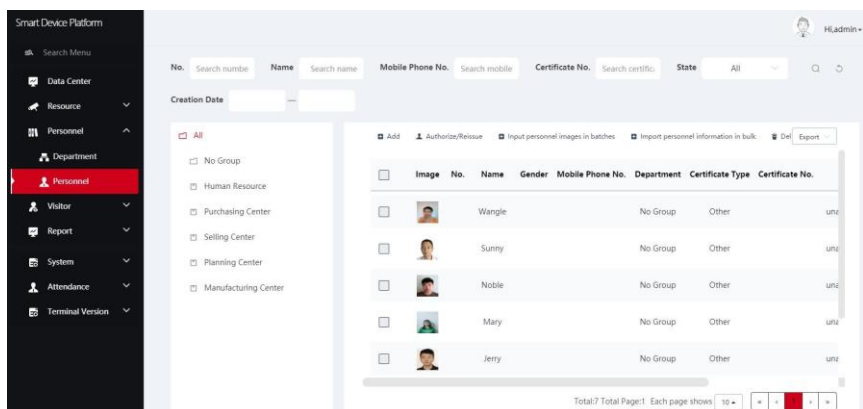

Figure 5-46
Step 1: In the smart device platform interface, click "Personnel→Personnel" to enter the personnel management interface, as shown in Figure 5-46 below.